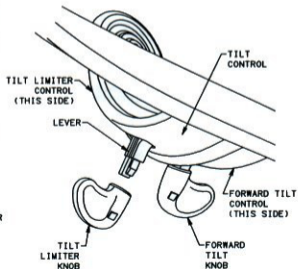

FIGURE 6
SLIDE CABLE COUPLING INTO TILT CONTROL HOUSING AND SLIDE CABLE INTO LEVER. INSERT SPRING OVER CABLE INTO CAVITY OF LEVER. PLACE PAD OVER SPRING. SEE FIGURE 6.
13. PUSH APPROPRIATE REPLACEMENT CONTROL KNOB(S) ONTO APPROPRIATE LEVER(S) OF TILT CONTROL UNTIL A 'CLICK' IS HEARD, INDICATING THE KNOB HAS LOCKED IN PLACE. SEE FIGURE 6.